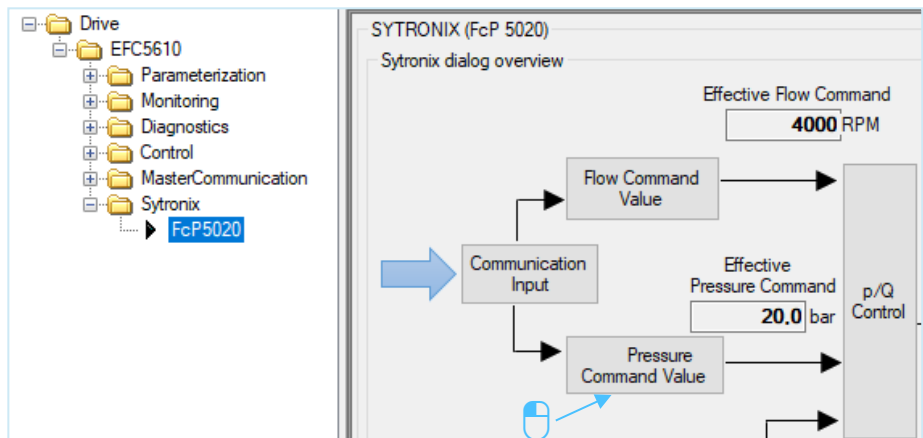

Abb. 24: Pressure command value switchable 1/2
1. Press "Pressure Command Value" (see Abb. 24: Pressure command value switchable 1/2).